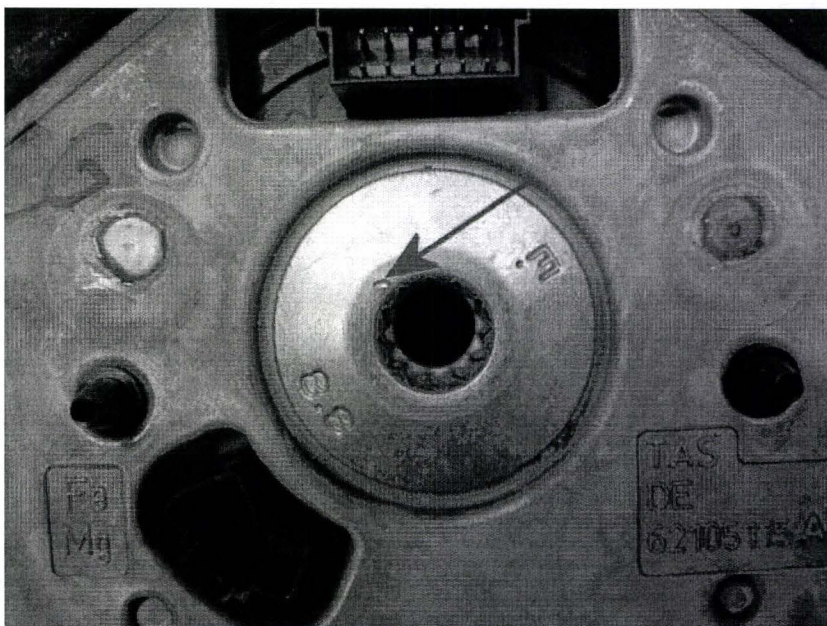

Figure 6
- Dot Punch the steering wheel securing bolt to confirm the bolt has been torque tightened (Figure 6)